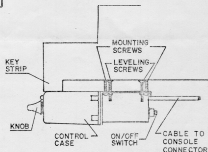

Figure 3. Control Mounted on Organ
5. Put four leveling screws (flat-headed machine screws) into the holes indicated, WITH THE HEADS UP, in the mounting bracket. Adjust each screw so the control is level (Fig.3).
Located on the back of the control (Fig.3) is the ON/OFF switch (push/push type) that actuates the Leslie Speaker. In the ON position (red light glowing), the speakers in the cabinet are ready to respond.